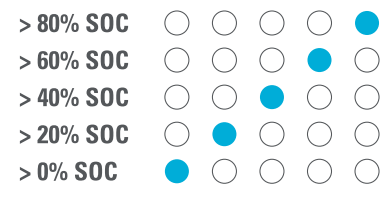

Figure 1
- One solid LED light indicates State of Charge (Figure 1)